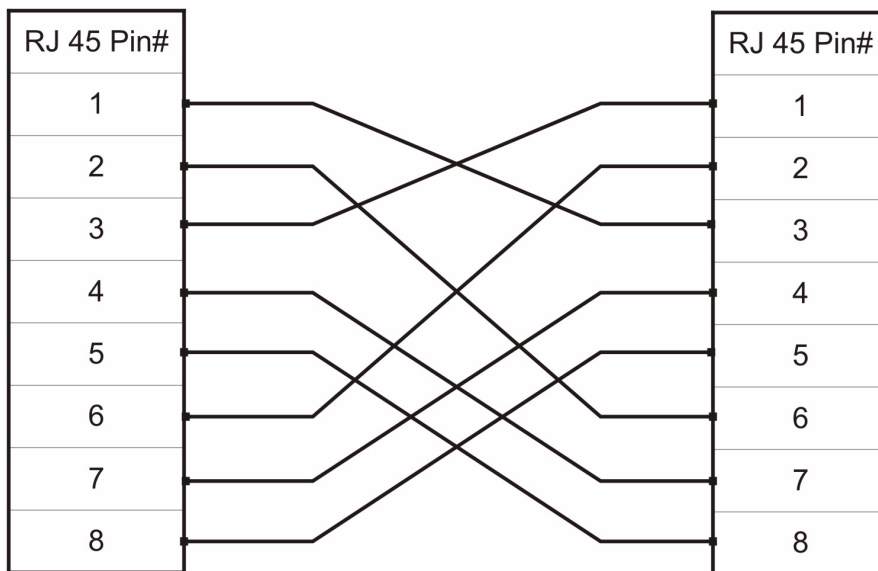
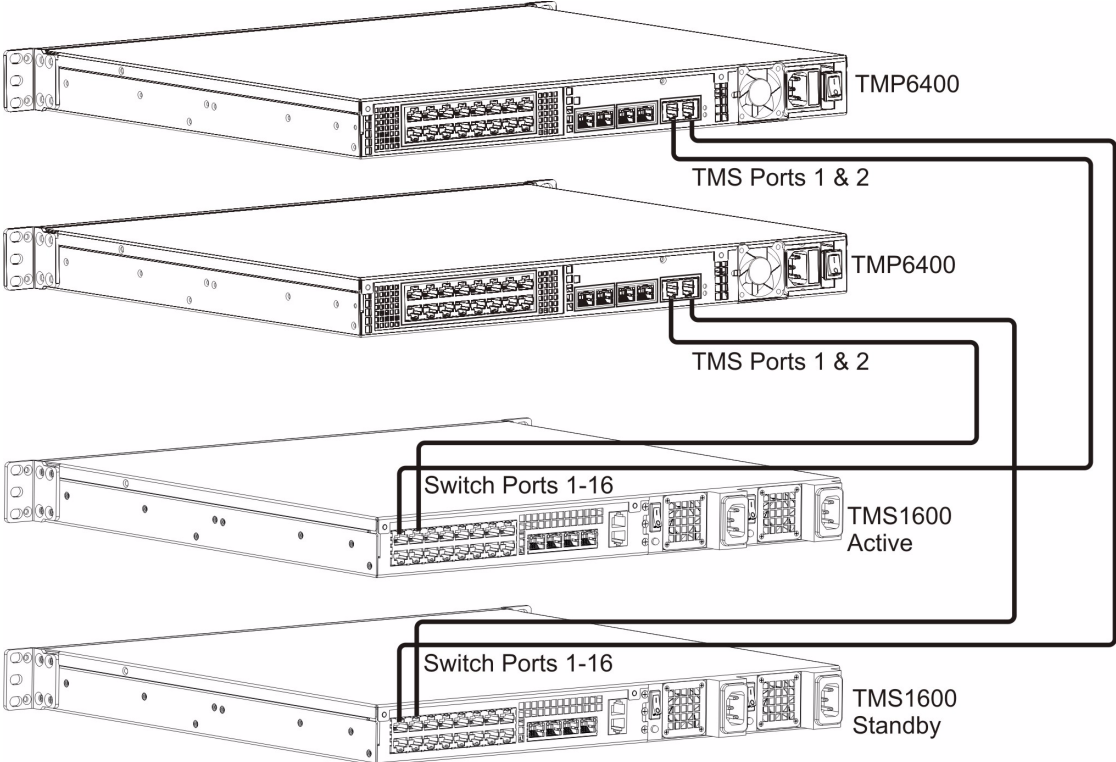

Figure 2.2 Ethernet Crossover Cable
Figure 2.3 Example of Interconnecting 2 TMP6400s with 2 TMS1600s
The resources of the TMP6400s are made available to each other by the connection to one or optionally two TMS1600s, as shown in figure 2.3 on page 11. See figure 2.2 on page 10 for a Ethernet crossover wiring diagram.
1. Start with the TMP6400 at the topmost position of the equipment rack and connect a CAT5 Ethernet crossover cable to TMS Port 1 at the rear of the TMP6400 figure 2.3 on page 11. Connect the other end of the same CAT5 cable to the first port of the first TMS1600.
2. If your system employs a second TMS1600, connect a second CAT5 Ethernet crossover cable to TMS Port 2 at the rear of the TMP6400 figure 2.3 on page 11. Connect the other end of the same CAT5 cable to the first port of a second TMS1600.